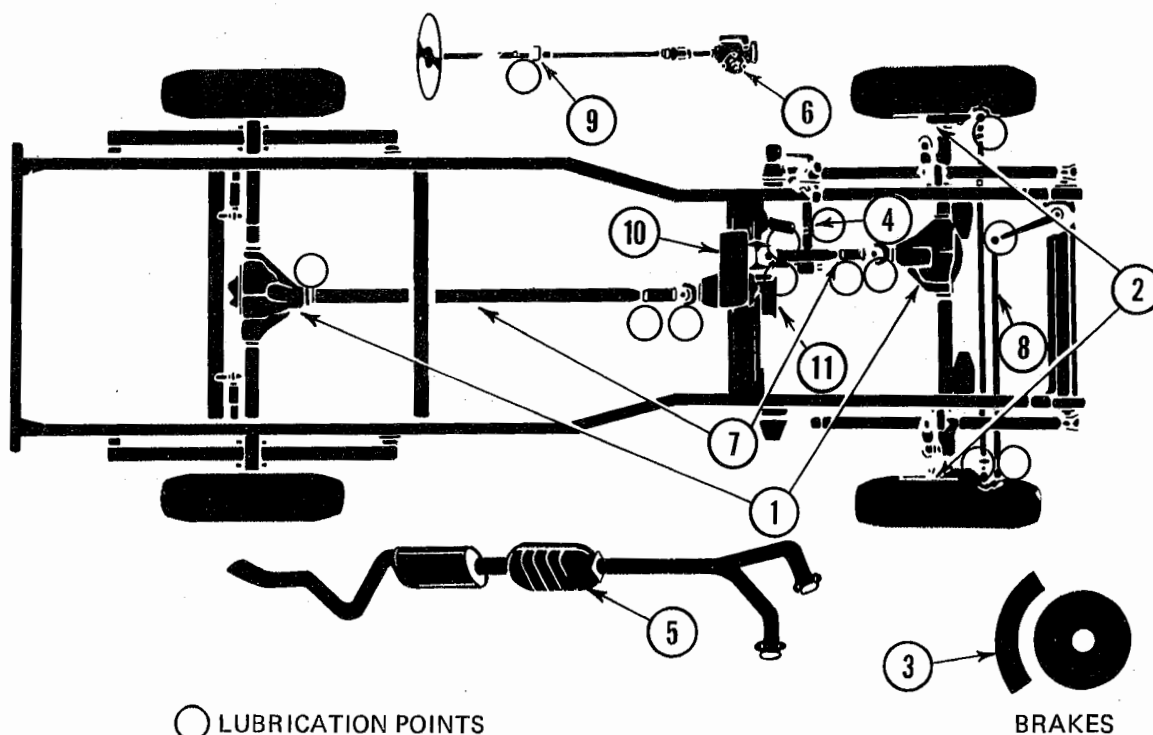

Fig. B-4 Chassis Illustration
- (1) Disconnect battery negative cable and then positive cable.
- (2) Clean cables and terminal posts with a wire-brush terminal cleaner.
- (3) Check battery fluid level and replenish, if necessary (fig. B-4).
- (4) Remove battery holddown and clean battery case and battery tray, if necessary, with a solution of baking soda and water; then rinse thoroughly.
- (5) Position battery in tray and fasten holddown. Do not overtighten.
- (6) Attach positive cable and then the negative cable.
- (7) Apply a small amount of grease or protective coating to cable ends to minimize corrosion.